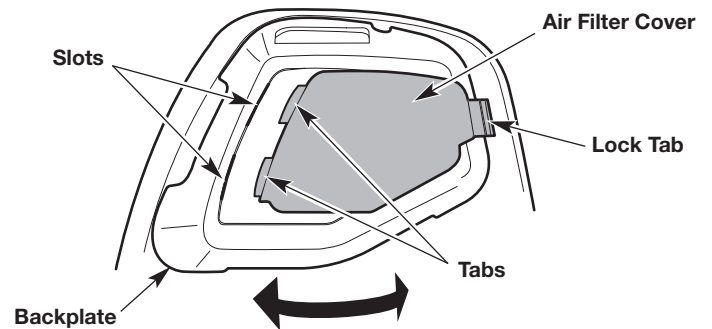

Fig. 36
1. Open the air filter cover: press in the lock tab and swing the air filter cover to the left (Fig. 36).
7. Close the air filter cover: insert the tabs on the air filter cover into the slots on the backplate. Swing the air filter cover to the right and press it closed until the lock tab snaps into place (Fig. 36).